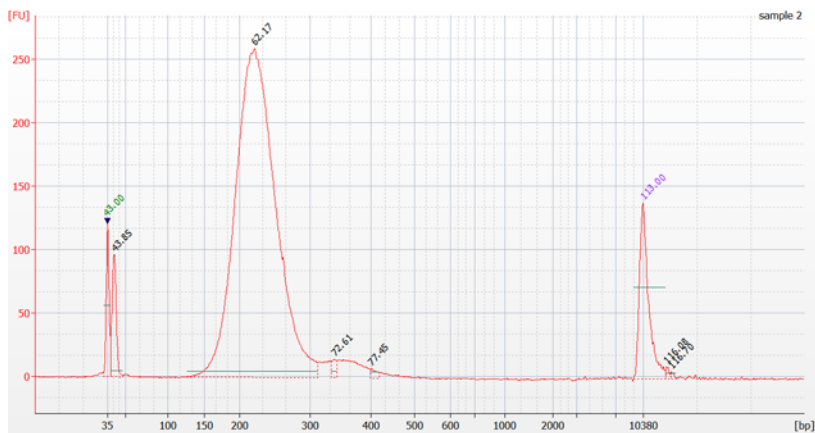

Figure 4 Post-capture analysis using the Bioanalyzer High Sensitivity DNA Assay.
- 5 Verify that the electropherogram shows a peak of DNA fragment size at approximately 220 bp. A sample electropherogram is shown in Figure 4. Primer-dimer peaks can be expected around 40 bp and are removed during the size-selection step (page 49).